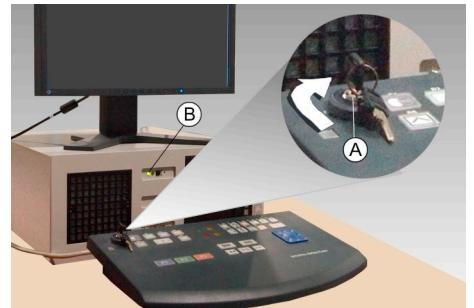

Fig. 57: Key switch of the remote station
- ▷ Turn the key switch ④ of the remote station clockwise (into position II) in order to switch on the unit (see Fig. 57). The key switch will backslide automatically to position I and the green LED ⑤ lights up.